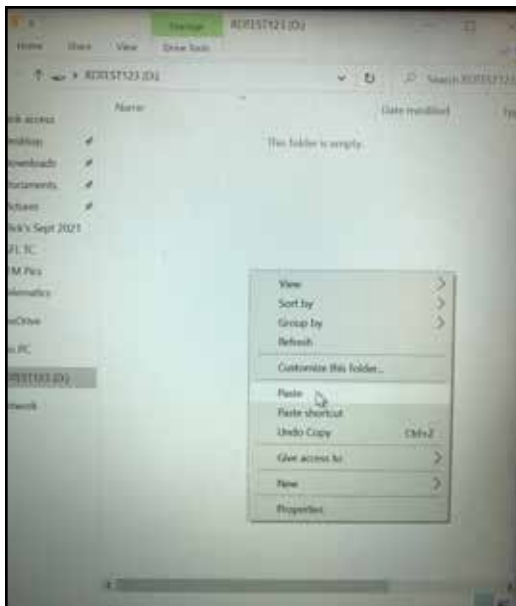

Figure 9
- Open the new jump drive. Right click and select "Paste" in the window (Figure 9).